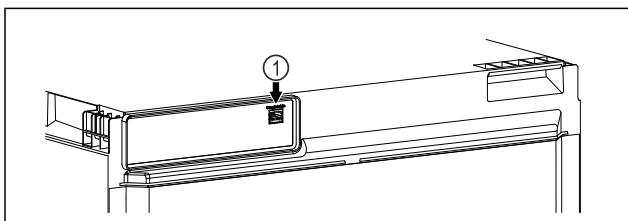

Fig. 27
- SmartModule Fig. 27 (1) has been inserted.